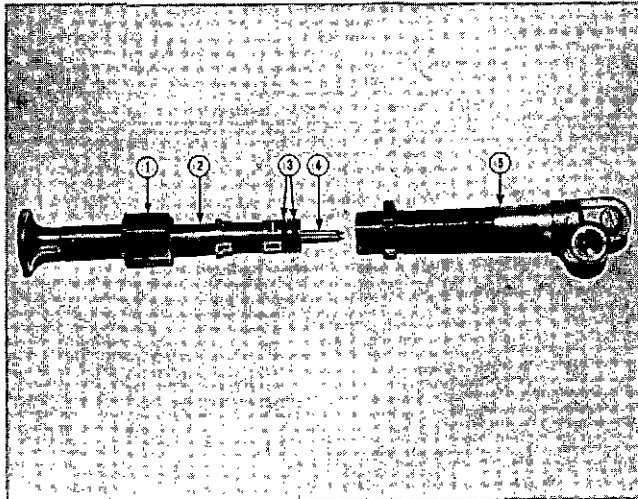

Fig. 10-2-2, N21020. Preheater priming pump
Note: Preheater priming pump, Fig. 10-2-2, switches and resistor are located at the instrument panel and are to be checked during engine starting.
2. Remove plunger shaft (2, Fig. 10-2-2) by removing the lock seal nut (1).
3. Remove "O" rings (3).
Clean all parts in Bendix Carburetor cleaner or equivalent. Dry with compressed air. Check plunger point (4, Fig. 10-2-2) for damage.
1. Assemble "O" rings (3, Fig. 10-2-2) on the plunger (2).
3. Assemble shaft in pump body (5) and tighten seal nut (1) and test plunger for freedom of movement.